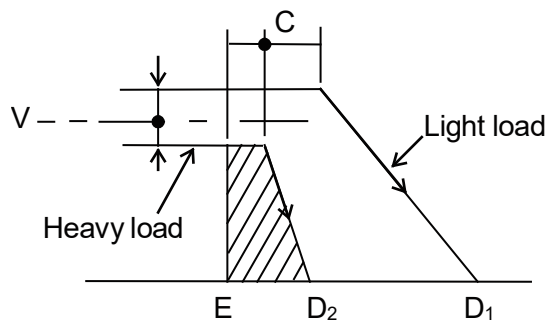

Figure 4.2 Coasting distance variation
The coasting distance after activating the limit switch corresponds to the area CDE, indicating the variation of the stop accuracy. The factors that affect the stop accuracy (the factors that may change the area CDE) in this condition are shown in Figure 4.2, specifically as follows: the variation of the stop time (ED) (variation of the load torque or the brake torque), the speed change of the moving part at the point C, the variation of the sensor activating position of the point C, and the variation of the delay time from the sensor activates until the motor actually starts decelerating.